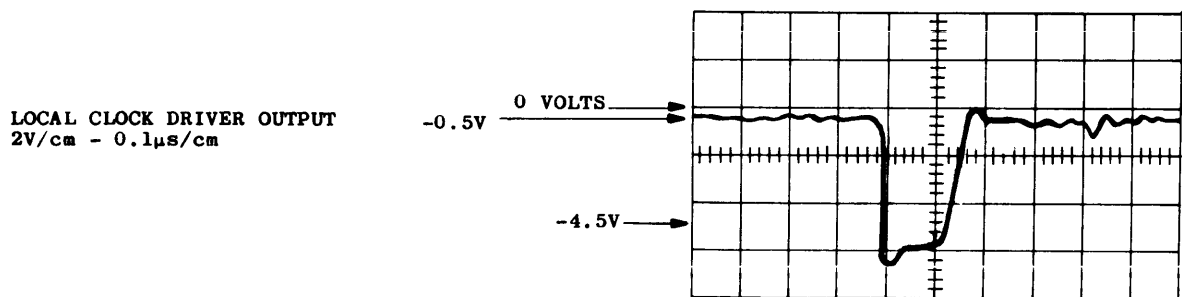

FIGURE 3.3-1 LOCAL CLOCK DRIVER WAVE SHAPE
4. Move the scope probe to the output of the other local clock driver, MCLD-AA (Pin AA B6 P7). Set the false level to $-.5V$ by adjusting the variable bias at AA B7 N2. (Refer to Figure 3.3-1).